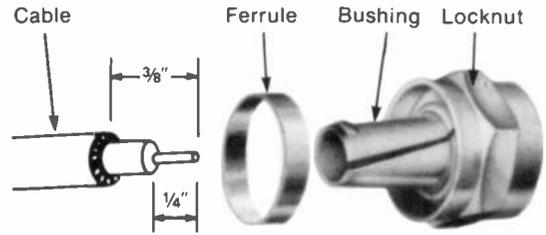

FIGURE 25-26 F-TYPE CONNECTOR FOR COAXIAL CABLE.
**F-connector.** See Fig. 25-26. This type is often used with coaxial cable. The center conductor of the cable itself is the connecting pin, which eliminates soldering on the male plug. A soft ferrule ring is crimped around the shield to hold the cable. Usually, a locking nut is screwed down to make a tight connection to the female fitting.